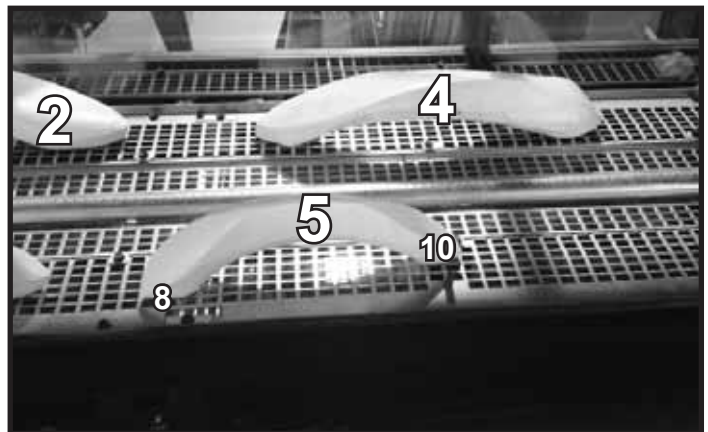

Figure 8. (SRV2310-755)
9. **(SRV2310-755):** Install Log #5 onto the shoulder screws by aligning the log placement holes with shoulder screws #8 and #10. See Figure 8.